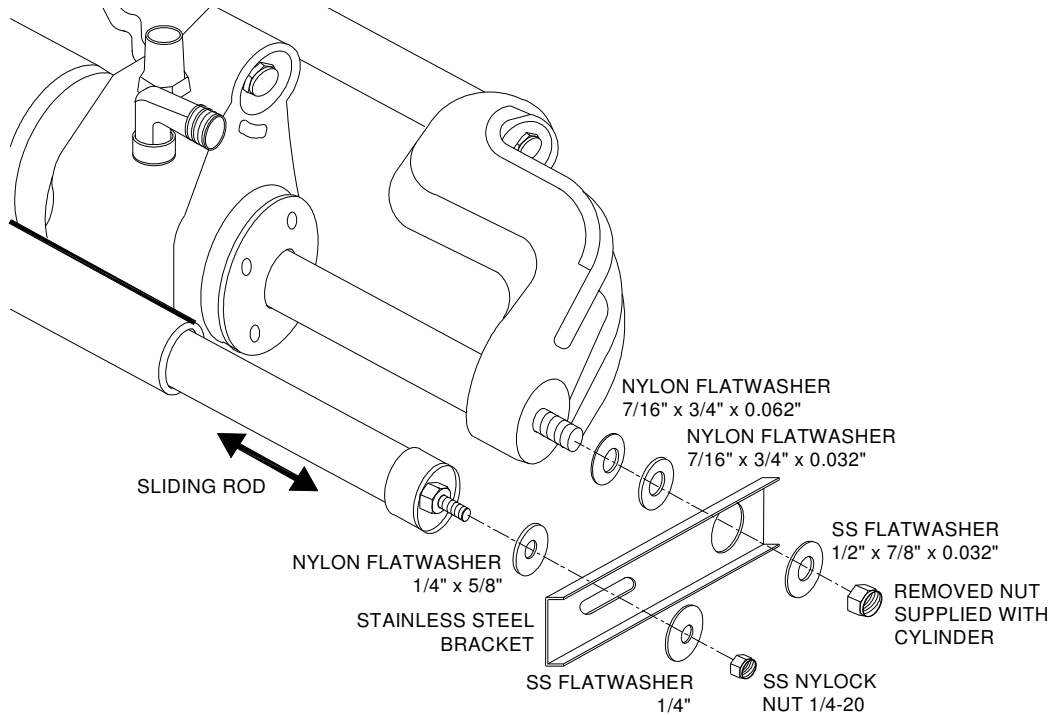

Figure 33 – Fasteners, Stainless Bracket Arrangement
- 4) Remove the nut from the steering cylinder rod's end (see Figure 33). Place the thick nylon flat washer (1.57 mm / 0.062" thick), then the thinner nylon flat washer (0.81 mm / 0.032" thick) and lastly the stainless steel bracket, over the threaded end of the rod. Place the stainless steel flat washer on the other side of bracket, and then replace the cylinder rod's nut. Do not tighten it yet – just thread it part-way, far enough to stay on.